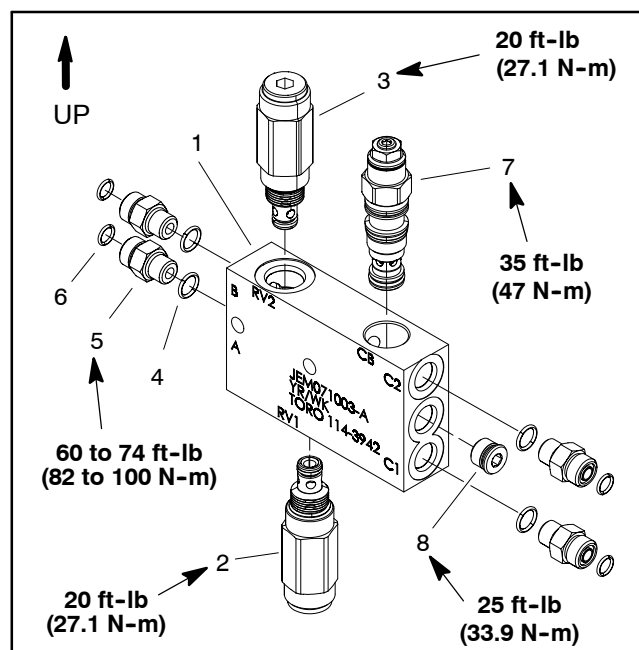

Figure 18
7. Remove two (2) cap screws, flat washers and lock nuts that secure lift relief manifold to machine frame.
9. If necessary, remove hydraulic fittings from manifold (Fig. 18). Discard any removed O-rings.
### Manifold Service (Fig. 18)
6. Thread cartridge valves carefully into correct manifold port. The valves should go in easily without binding. Using a deep socket, torque cartridge valves to values identified in Figure 18.